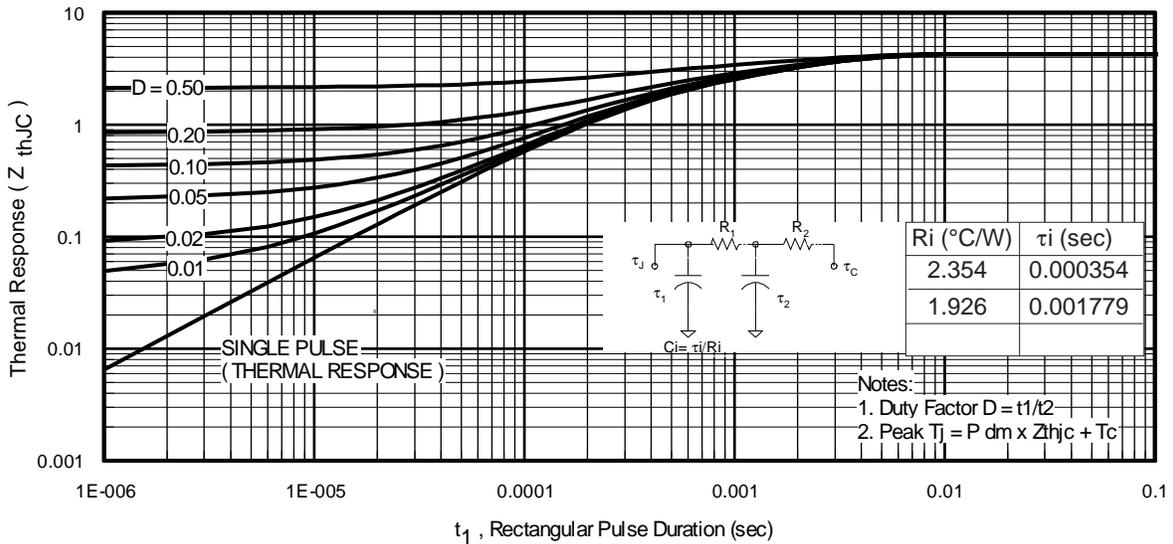
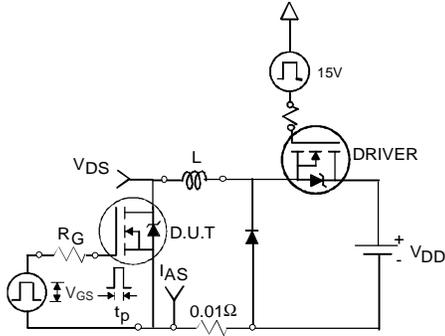

Fig 11. Maximum Effective Transient Thermal Impedance, Junction-to-Case
Fig 12a. Unclamped Inductive Test Circuit
3. Equation below based on circuit and waveforms shown in Figures 12a, 12b.
$Z_{thJC}(D, t_{av})$ = Transient thermal resistance, see figure 11)
- ① Repetitive rating; pulse width limited by max. junction temperature. (See fig. 11).
- ② Limited by T_{Jmax} , starting $T_J = 25^\circ\text{C}$, $L = 0.54\text{mH}$, $R_G = 25\Omega$, $I_{AS} = 9.6\text{A}$, $V_{GS} = 10\text{V}$. Part not recommended for use above this value.
- ③ Pulse width $\leq 1.0\text{ms}$; duty cycle $\leq 2\%$.
- ④ C_{OSS} eff. is a fixed capacitance that gives the same charging time as C_{OSS} while V_{DS} is rising from 0 to 80% V_{DSS} .
- ⑤ Limited by T_{Jmax} , see Fig.12a, 12b, 15, 16 for typical repetitive avalanche performance.
- ⑥ This value determined from sample failure population. 100% tested to this value in production.
- ⑦ When mounted on 1" square PCB (FR-4 or G-10 Material). For recommended footprint and soldering techniques refer to application note #AN-994.
- ⑧ $R_{\theta jmc}$ measured at